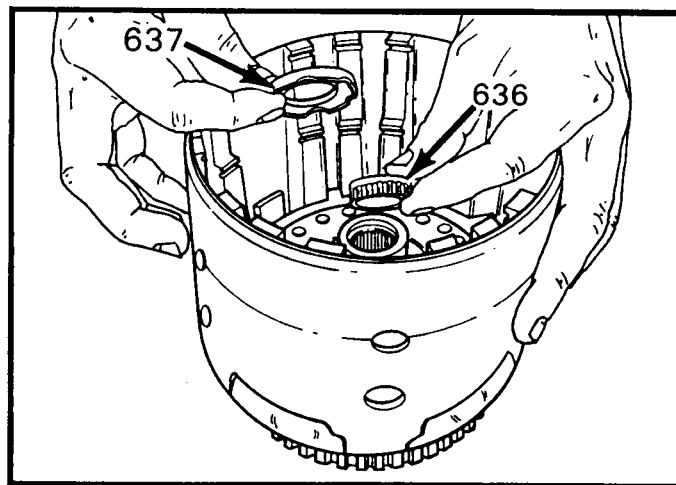

Figure 125
5. Install input housing lube oil seal in the input housing as shown in Figure 125. There are two different seals depending on output shaft design, but the hard plastic will work either way. See Figure 100.
6. Install the thrust bearing into the input housing, as shown in Figure 125.